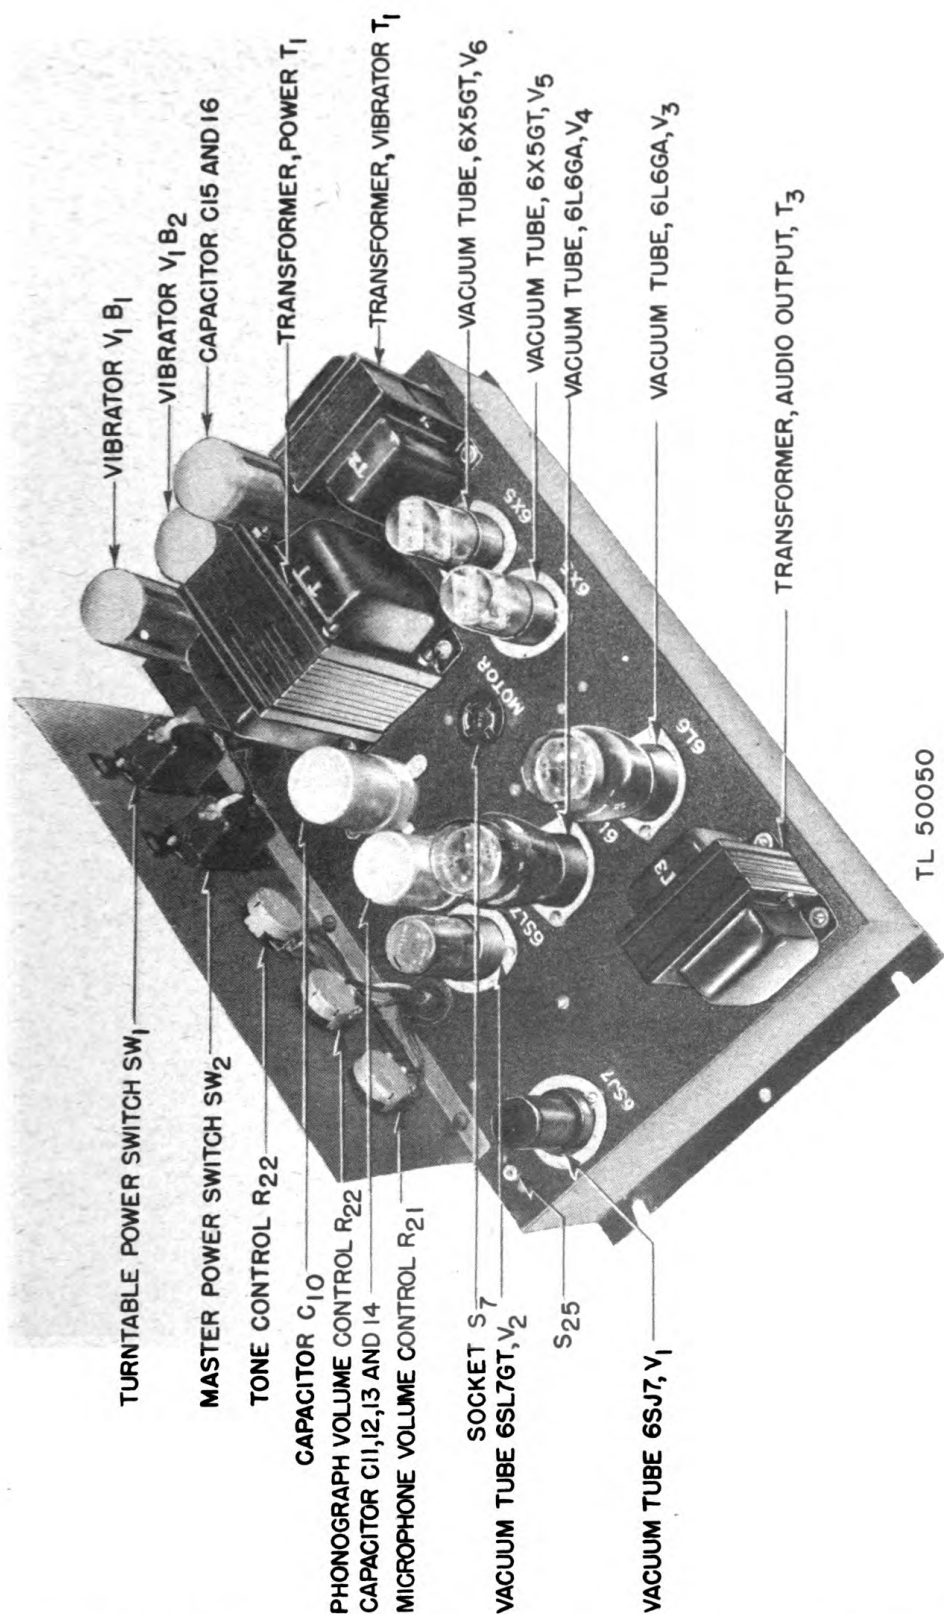

Figure 16. Amplifier and Record Player BC-1292, for PA-5-(*),
34. AMPLIFIER BC-1292 (See figures 16, 17 and 18).
(c) Defective vibrators VIB ₁ , VIB ₂ .	Replace defective vibrators (fig. 16).
(d) Defective tube (V ₁ , V ₂ , V ₃ , V ₄ , V ₅ , or V ₆).	Replace defective tubes (fig. 16).
(b) Defective tubes.	Replace tubes (fig. 16).
(1) Defective amplifier (a) Defective tubes.	Check and replace (fig. 16).